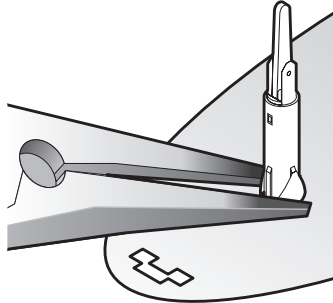

Figure 8a
3. Using needle nose pliers, squeeze plastic tabs against pilot light and push light through hole in assembly. (See Figure 8a.)